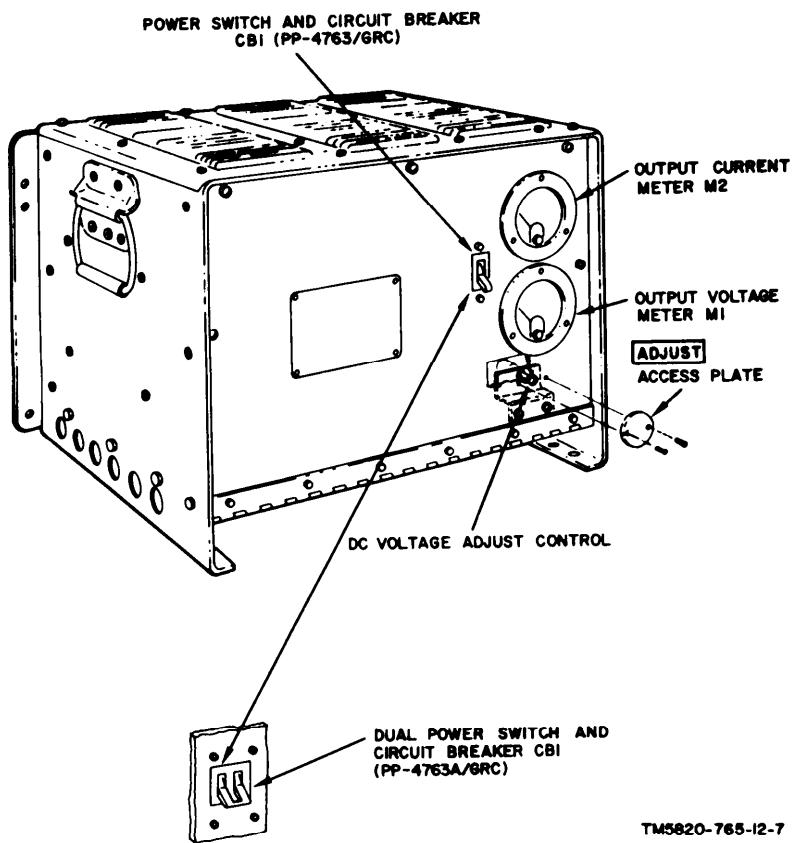

Figure 2-3. Front panel controls and indicators.
(fig. 2-3)
b. Remove the ADJUST access plate on the front panel (fig. 2-3).